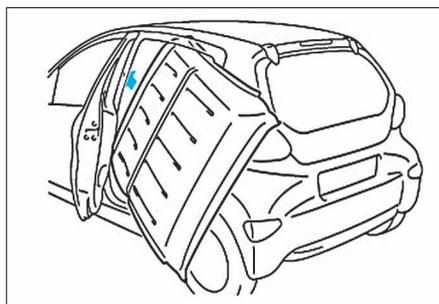

FIG. 129
- Reposer la garniture de pavillon (Fig.129).